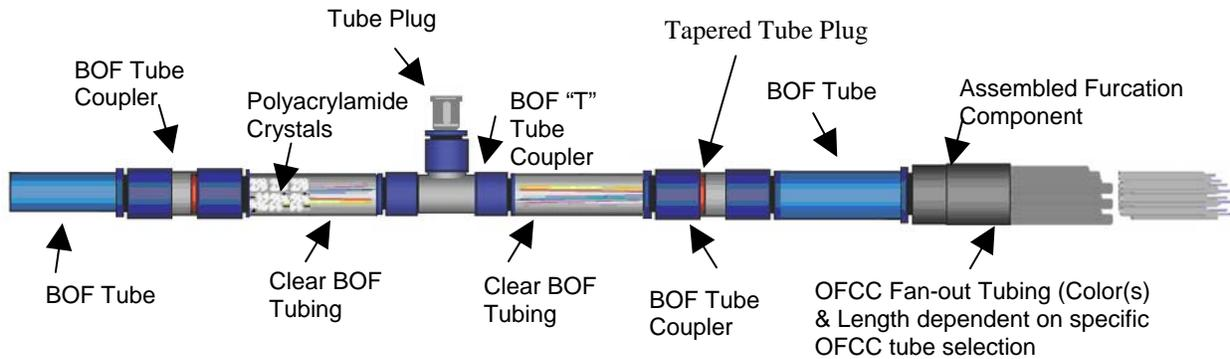

Figure 12
- b. Remove spare BOF filling tube and replace plug into the BOF tee coupler. (Figure 12)